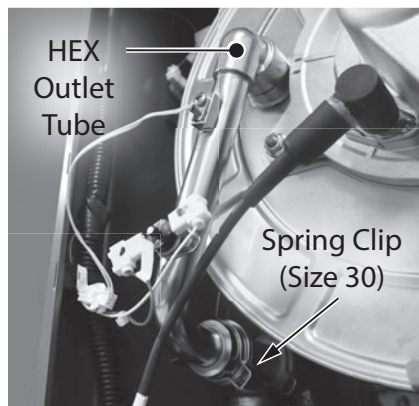

Figure 196 - Remove spring clip securing HEX outlet tube
- 22** Locate the HEX outlet tube connected to the heat exchanger as shown in Figure 196 on the following page. Remove the spring clip (size 30) securing HEX outlet tube to mixing tee. Remove spring clip and place aside in a safe place for reinstallation.